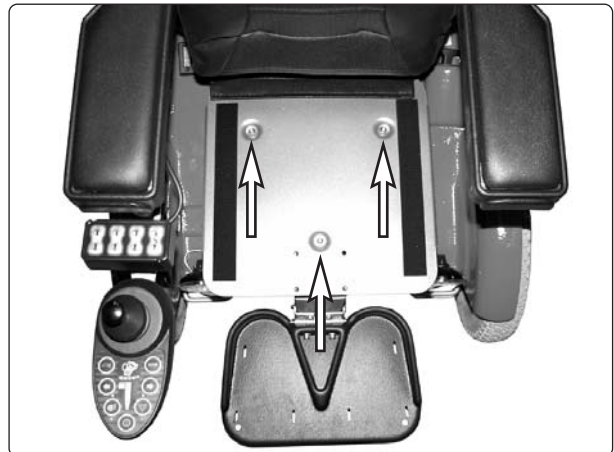

Fig. 5. The seat plate is attached by three bolts.
2. Remove the seat plate, it is attached by three bolts, see fig. 5.